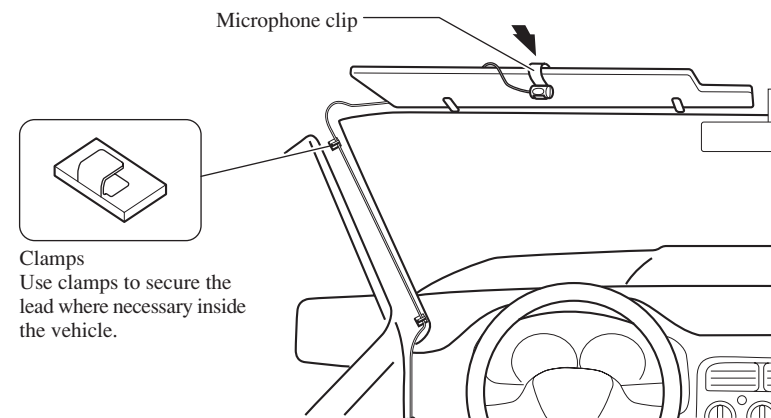

Fig. 13
2. Install the microphone clip on the sun visor. (Fig. 13)